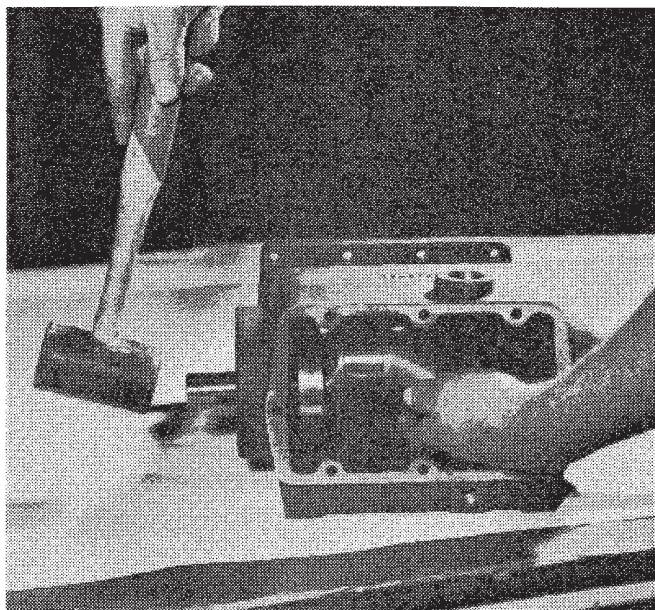

Fig. 3
To remove crankshaft (30) the plungers and fluid end must first be removed, as explained earlier. Drain oil from crankcase and remove rear cover (34). Remove retainer ring (31) from bearing bore. The connecting link caps should be taken off and the free links pushed toward the water end as far as possible. **BEFORE REMOVAL, BE SURE TO NOTE THE MARKINGS ON THE CONNECTING LINKS AND CAPS. THESE PARTS ARE NOT INTERCHANGEABLE AND MUST BE REASSEMBLED IN THEIR ORIGINAL POSITIONS.** The crankshaft (30), bearings (28) and bearing cap (32) can now be removed by tapping with a hammer against a block of wood on one end of the crankshaft. The crankshaft should be supported so that as the bearings leave the bores the crank does not drop and damage a crank pin. See Fig. 3. Do not remove bearing (28) from crankshaft (30) unless replacement is necessary. After removing crankshaft, the links and crosshead can be pulled out the crankcase opening.